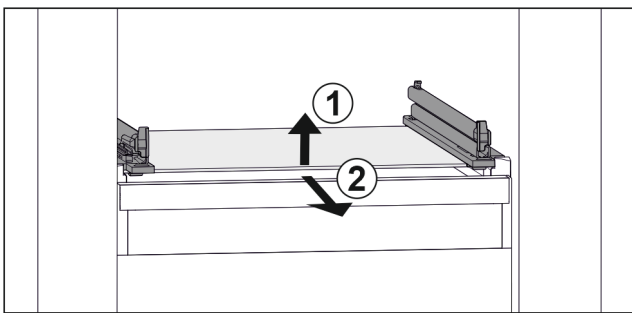

Fig. 62 Example illustration of glass shelf
- ▶ Lift glass shelf at the front. Fig. 62 (1)
- ▶ Take out glass shelf to the front. Fig. 62 (2)